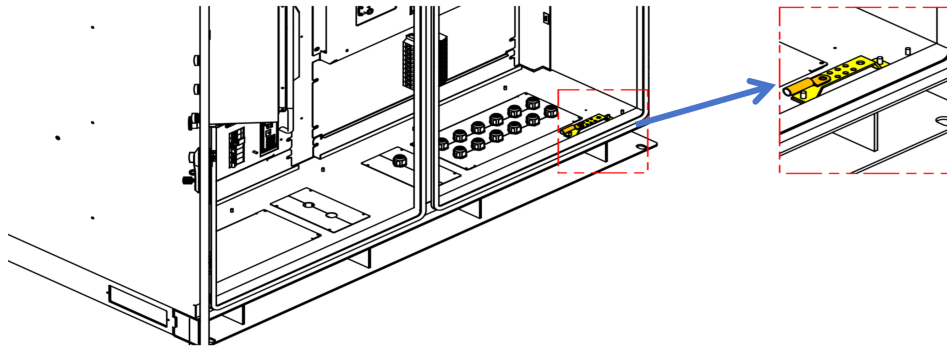

Figure 7-1: Grounding connection
- c. Connect the grounding terminal to the grounding bar with the M10 fastener as shown in Figure 7-1.
- The battery cabinet grounding terminal is located at the grounding bar inside the cabinet, as shown in Figure 7-1 (referring to Grounding the Battery Cabinet ).